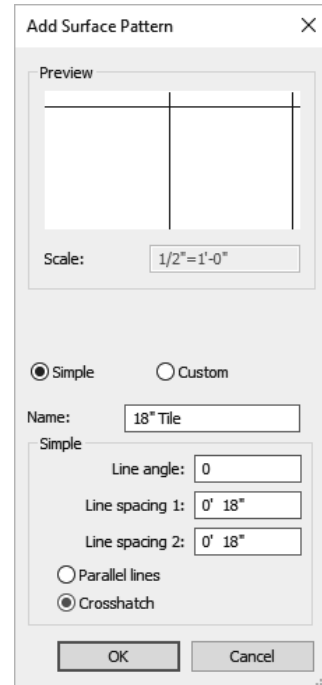

FIGURE 4-4.15 Add surface pattern
59. Create a new pattern named **18" Tile**; adjust the settings to match Figure 4-4.15.